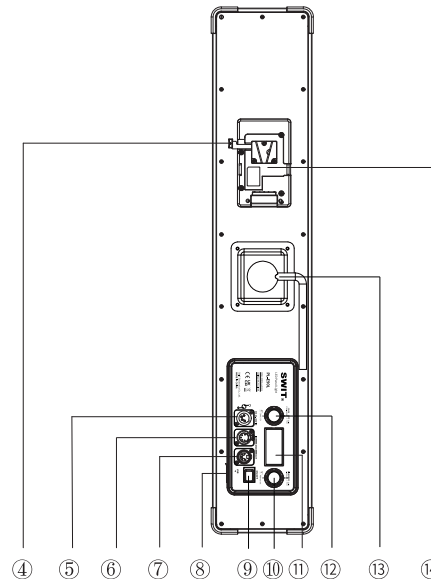

Fig.4 PL-E90L Back View
Connect battery with battery plate, (Fig.4 ④), hear the "Click" sound to complete the battery installation.
Push the lock rod (Fig.4 ④) to remove the battery from the plate.
The light provides two ways of adjusting the color temperature and brightness: normal adjusting mode and quick adjusting mode. User can switch the adjusting mode by press the dimmer knob and color temperature adjusting knob(Fig.4 ⑩/⑫).User can quickly set the dimmer and color temperature to their needs by combining two adjusting modes.
Hold the brightness adjust knob(Fig.4 ⑩)for 2s to enter in setting interface of communication address, communication address setting range:001-512.
The chosen number will show flashing backlight, turn brightness adjust knob(Fig.4 ⑩) left and right to set current number, press brightness adjust knob(Fig.4 ⑩)to confirm current number and set next number, after finish setting the last number, press brightness adjust knob(Fig.4 ⑩)or wait for about 5seconds to exit communication address setting.
Connect all the lights with DMX cable, hold the color temp adjust knob (Fig.4 ⑫) about 2s to complete the setting of communication mode.